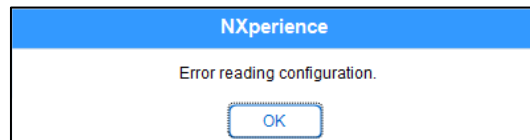

Fig. 58 – Error reading configuration
- e. If the **NXperience** shows an error while reading the configuration, as shown in **Fig. 58**, and the device display is off, try the procedure described in the following step.